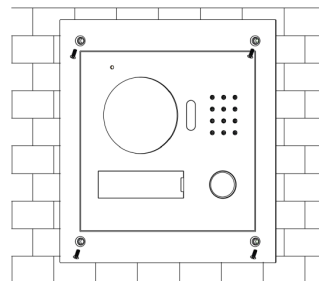

Figure 3
- c) Align the device on metal bracket according to screw hole. At 2 spots fasten screws (M3x8 Cross recessed countersunk head tail machine screws--- galvanizing white), and fix device on metal bracket. See Figure 3.